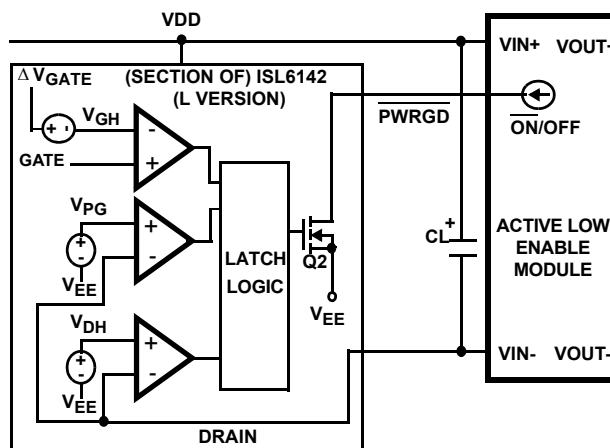

FIGURE 34. ACTIVE LOW ENABLE MODULE
**ISL6142** (L version; Figure 34): Under normal conditions (DRAIN voltage -  $V_{EE} < V_{PG}$ , and  $\Delta V_{GATE} - V_{GATE} < V_{GH}$ ) the Q2 DMOS will turn on, pulling  $\overline{PWRGD}$  low, enabling the module.
a high enough input voltage (remember that current through the RPG 6.2kΩ resistor generates the high voltage level; see Figure 34).